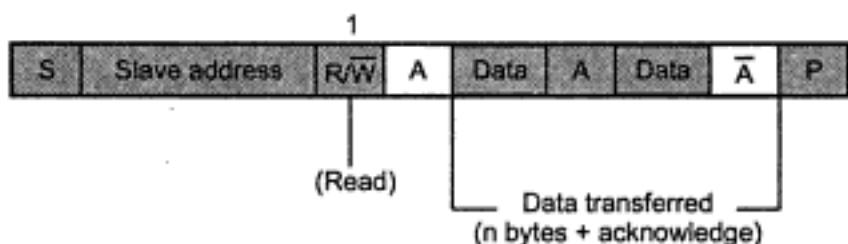

Fig. 14.20 Master reads slave immediately after first byte
2. Master reads slave immediately after first byte. This is shown in Fig 14.20. At the moment of the first acknowledge, the master-transmitter becomes a master-receiver and the slave-receiver becomes a slave-transmitter. This first acknowledge is still generated by the slave. The STOP condition is generated by the master, which has previously sent a not-acknowledge (A).